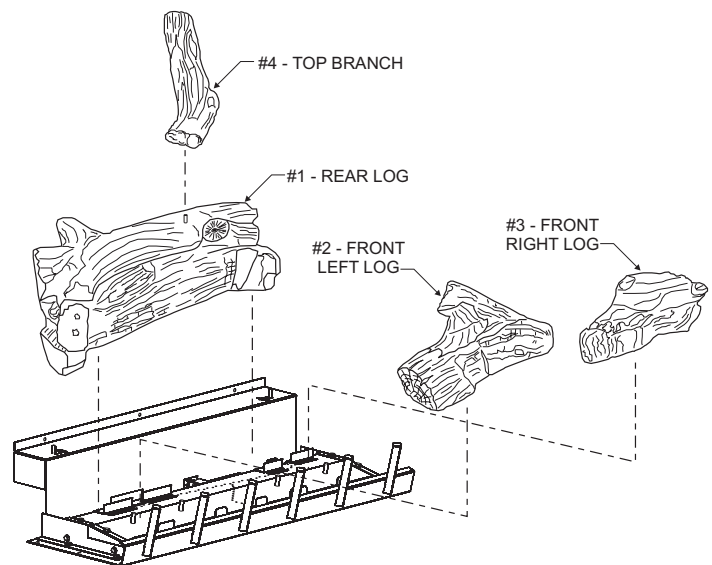
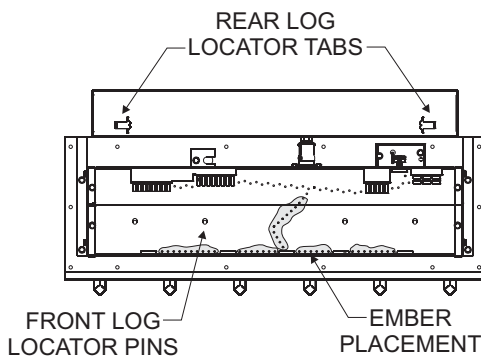

Figure 20
Figure 18
The positioning of logs is critical to safe and clean operation of this fireplace. Sooting and other problems may result if the logs are not properly and firmly positioned in the firebox. Please refer to **Figure 18**, **Figure 19**, and **Figure 20** and corresponding WARNING, when completing the following log placement steps.
9. After all logs are properly positioned, place small "dime" size pieces of Rockwool lightly across the front round "blueflame" ports. Place the ember material (Rockwool pieces) side by side. Do not stack more than one layer of embers across the burner ports. **See Figure 18.**